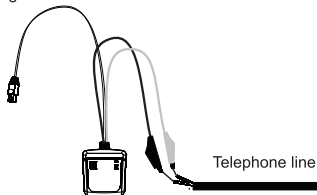

Figure 4 Indicating line conditions
8. Indicating line conditions (Checking polarity)(see Figure 4)